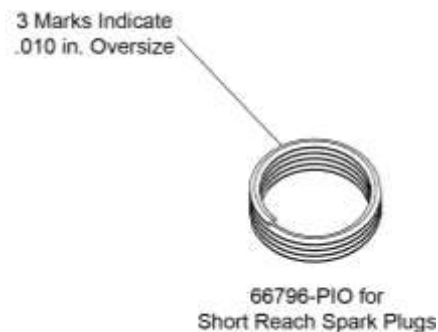

Figure 57
NOTICE: Always install a larger 0.010 in. oversized Heli-Coil® insert in the spark plug hole on the cylinder head to replace a standard sized Heli-Coil® insert. Never replace a standard sized Heli-Coil® insert with another standard sized Heli-Coil® insert. The oversized Heli-Coil® inserts are identified by three marks on the tang of the Heli-Coil® insert as shown Figure 57.
- (3) Examine the removed Heli-Coil® to make sure it is not 0.010 in. oversized (Figure 57). If the removed Heli-Coil® is 0.010 in. oversized, replace the cylinder.